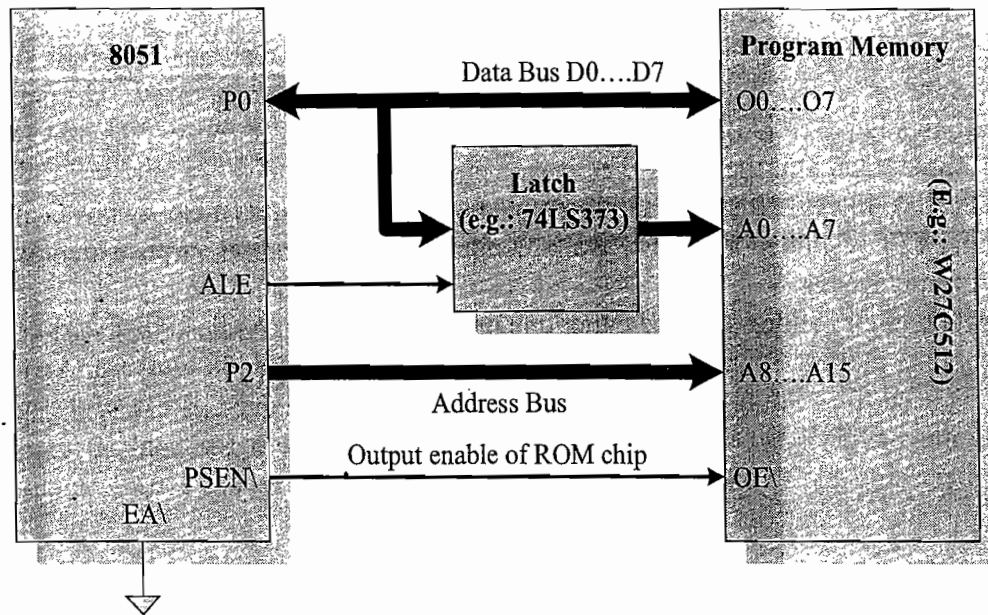

Fig. 5.3 8051 External Program Memory chip (ROM) interfacing
If the program memory is external, 16 I/O lines are used for accessing the external memory. Port 0 and Port 2 are used for external memory accessing. Port 0 serves as multiplexed address/data bus for external program memory access. Similar to the 8085 microprocessor, Port 0 emits the lower order address first. This can be latched to an 8bit external latch with the Address Latch Enable (ALE) signal emitted by 8051. Once the address outing is over, Port 0 functions as input port for data transfer from the corresponding memory location. The address from which the program instruction to be fetched is supplied by the 16bit register, Program Counter (PC), which is part of the CPU. The Program Counter is a 16bit register made up of two 8bit registers. The lower order byte of program counter register is held by the PCL register and higher order by the PCH register. PCL and PCH in combination serve as a 16bit register. During external program memory fetching, Port 0 emits the contents of PCL and Port 2 emits the contents of PCH register. Port 0 emits the contents of PCL only for a fixed duration allowing the external latch to hold the content on arrival of the ALE signal. Afterwards Port 0 goes into high impedance state, waiting for the arrival of data from the corresponding memory location of external memory. Whereas Port 2 continues emitting the contents of PCH register throughout the external memory fetch. Once the PSEN \backslash signal is active, data from the program memory is clocked into Port 0. Remember, during external program memory access Port 0 and Port 2 are dedicated for it and cannot be used as general purpose I/O ports. The interfacing of an external program memory chip is illustrated in Fig. 5.3.